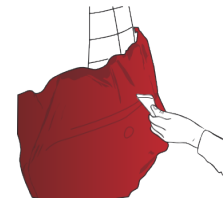

Figure 15
- › Apply the film over the whole surface using a felt-covered, plastic squeegee, and carefully wipe over the convex area (FIG. 15) to eliminate any tensions and folds.